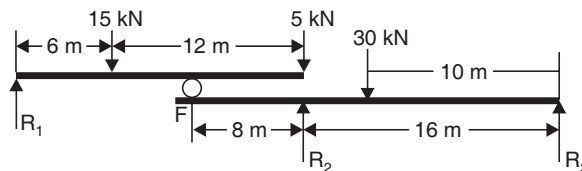

Fig. 3.50
**Example 3.20.** Find the reaction  $R_1$ ,  $R_2$  and  $R_3$  in the case of two beams placed one over the other and loaded as shown in Fig. 3.50.
**Sol.** Refer to Fig. 3.50.